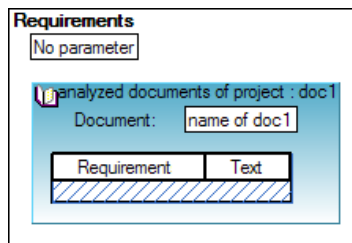

Figure 5-5. Inserted Column Text Elements
21. Select the area below the column headers as shown in Figure 5-5.